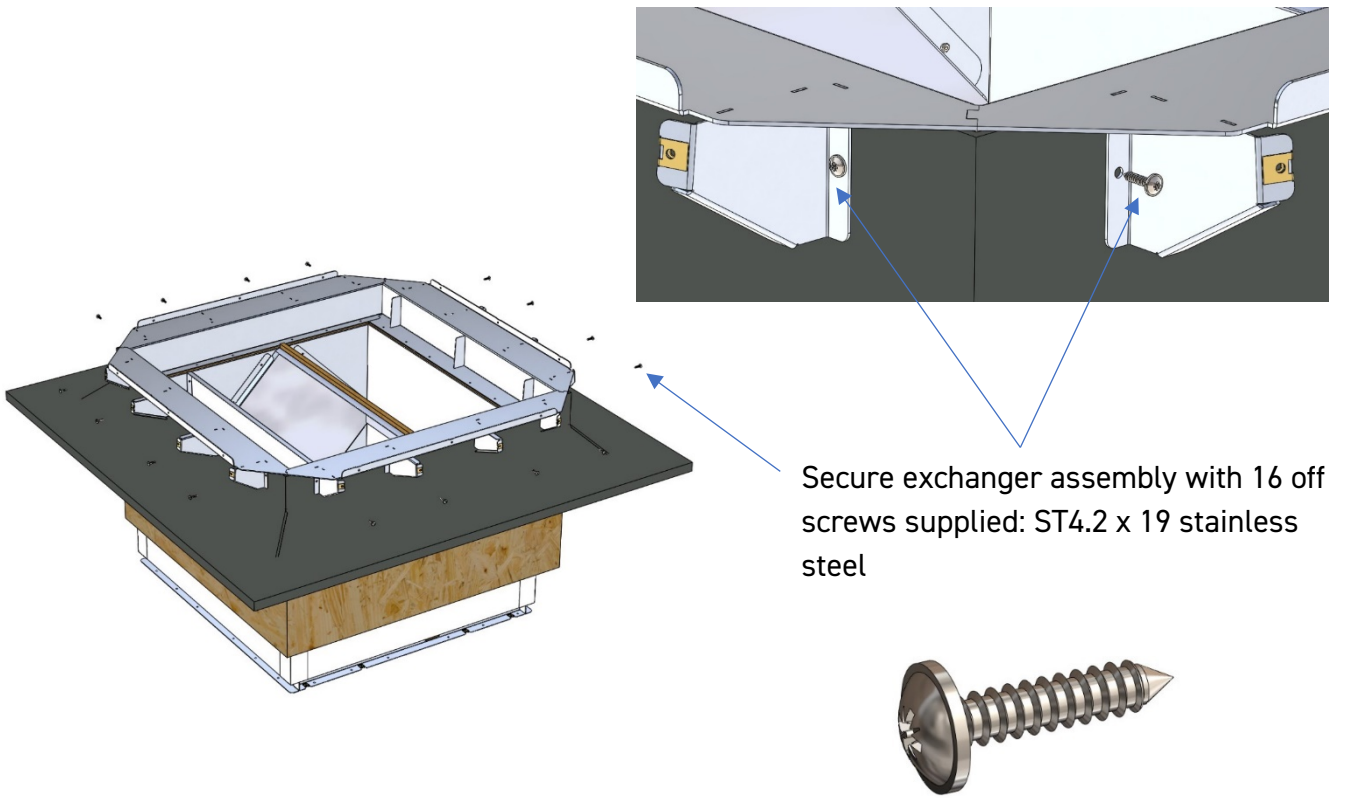

Figure 43 - Screw fixing locations for the heat exchanger.
3. Align screws with the holes in the heat exchanger and fix the heat exchanger frame to the timber upstand. Using the 16 number ST4.2 stainless screws supplied (4 per side - *see figure 43.*